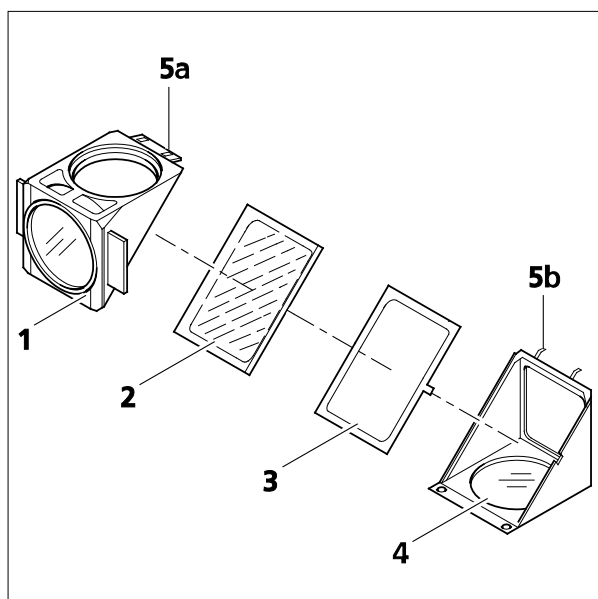

Figure 3-38 Replacing a beam splitter
- Tilt the upper half module (Figure 3-38/1) upwards, and lift it out of the holder elements (Figure 3-38/5b) of the lower half module.
- Take beam splitter (Figure 3-38/2) and spring frame (Figure 3-38/3) out of the lower half module.
- Remove the old beam splitter, and position the new beam splitter with the reflecting side pointing down onto the spring frame (Figure 3-38/4), and lay both parts together into the lower half module. Please make certain that the lateral spring frame tab is located in the corresponding recess at the lower half module.
- Place the upper half module (Figure 3-38/1) onto the lower half module (Figure 3-38/4) (holder elements Figure 3-38/5a will engage into the eyes Figure 3-38/5b). Hold both halves together, and turn them back into the mounting position again.